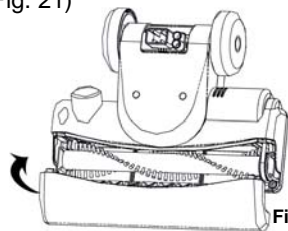

Fig. 21
- Replace the brush cover and screws. (Fig. 21)